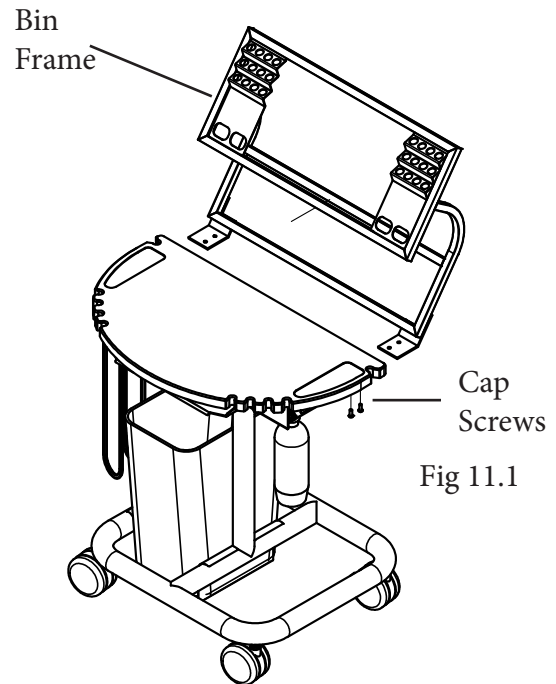

Fig 11.1
1. There are 4 Button Socket Cap Screws pre-installed on the underneath side of the Corian Work Surface. Remove the screws and line up the Bin Frame to be secured to the Work Surface with the Socket Cap Screws (Fig 11.1).
1. In Fig 11.1 the Tubing and Wiring from the Umbilical is shown as loose ends and connections need to be done manually by your installer or a licensed contractor. Please follow the directions below to begin the process.